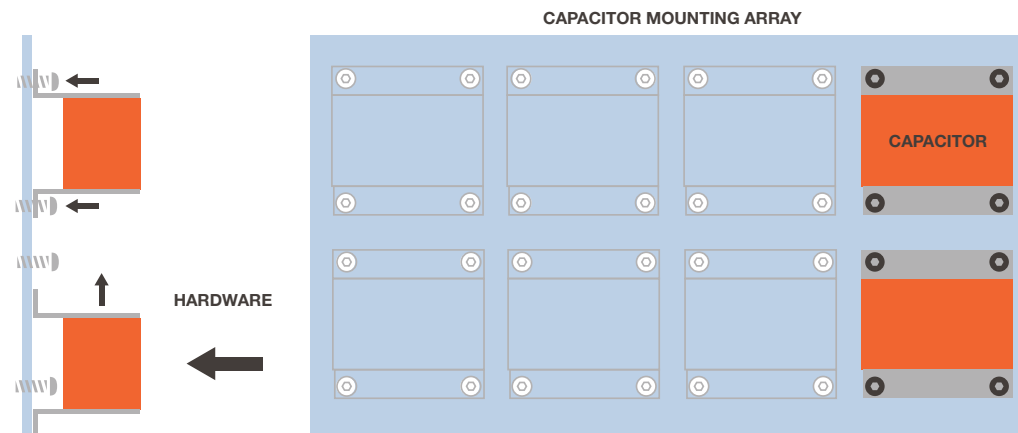

Figure 5-2: 8-Capacitor Mounting Array
**Step 4.** Remove/add capacitors to mounting array (Figure 5-2).
Capacitors installed on the Capacitor Mounting Array (Figure 5-2) are in parallel. However, for optimal results, populate the array closest to series inductor first and attempt to use equivalent values capacitors. If tuning specifications require the use of differing capacitor values, always place the largest valued capacitors nearest to the series inductor.